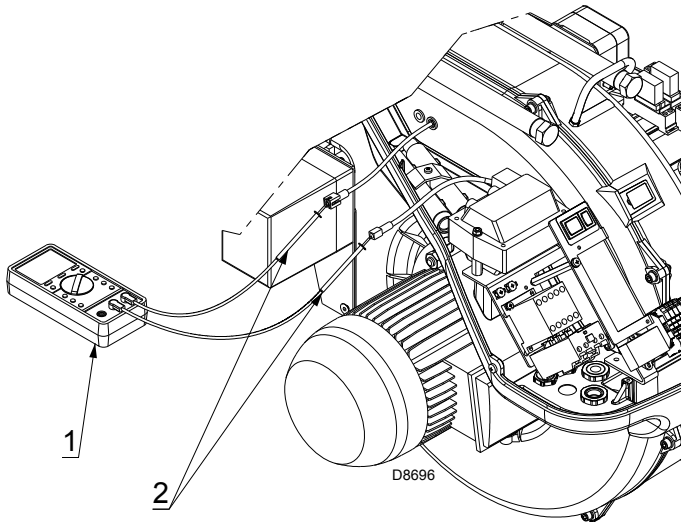

Fig. 35
However, if it is necessary to measure the ionisation current, disconnect the plug-socket (2)(Fig. 35) on the ionisation probe cable and insert a direct current microammeter (1)(Fig. 35) with a base scale of 100  $\mu\text{A}$ .